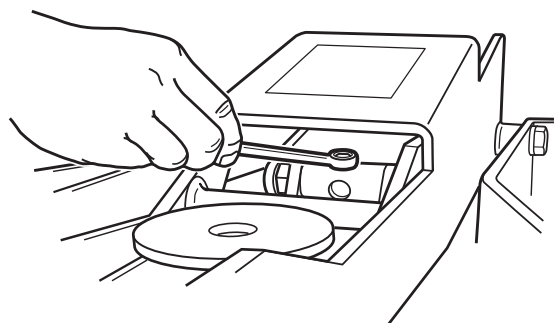

Figure 3
4. Use a 7/16" wrench to snug the bolt against the piston. See Figure 3.